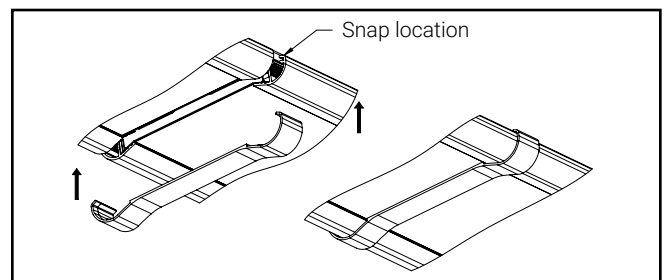

Figure 7
- Make sure all of the wire harnesses are pushed upward and out of the way. Then push the trim piece upward so the ends snap over the side rails. There are bumps on the inside of the trim piece to center it. After installed the trim piece will sit flush with the rails and waveguide. (Figure 7)